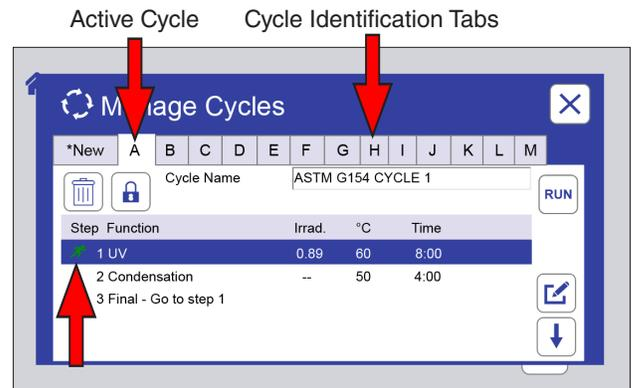

Figure 11.7.1b: Manage Cycles screen. The active cycle is displayed. The currently running step is indicated. Touch any ID tab to display that cycle.
- The Manage Cycles screen is displayed showing the active test cycle and the steps in the cycle, with the currently executing step indicated (Figure 11.7.1b).
- Each cycle is stored with an alphanumeric (A through M) identification tab (Figure 11.7.1b).